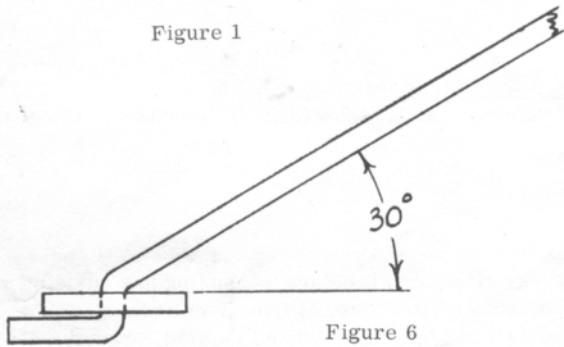

Figure 6
16. Bend the Throttle Wire 5/8" from the end in a downward position so the end is vertical to the ground. Insert into hole in the Governor Arm and then bend into a horizontal position to the ground. See Figure 6 for correct bend. Test to make sure Throttle Wire can move freely through its entire travel without binding the Throttle Wire portion that is within the Governor Arm. Adjust as required.